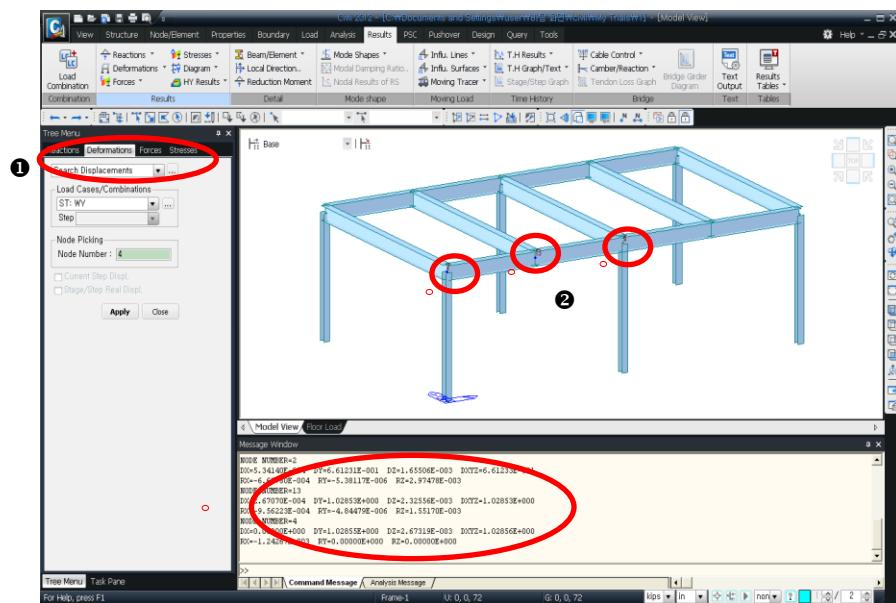

Figure 1.28 Verification of Displacements at Specific Nodes
1. Select **Search Displacement** from the functions selection field (Fig.1.28–❶).
3. Select nodes **2, 4** and **13** with the mouse (Fig.1.28–❷).